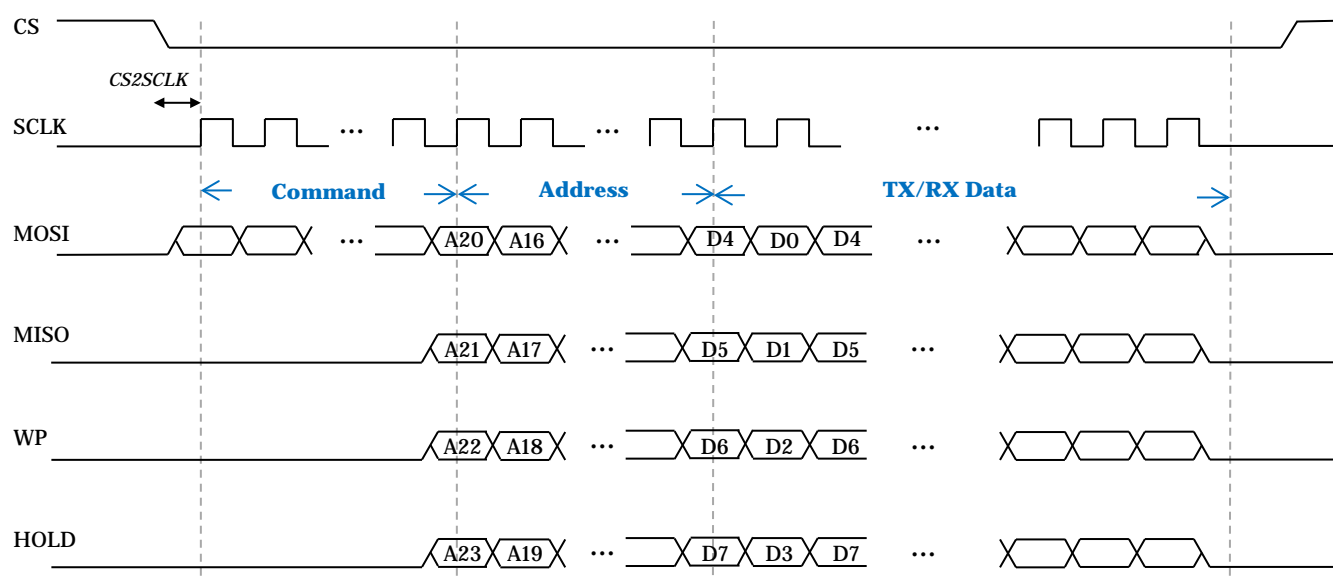

Figure 9. SPI Quad I/O Mode Transfer (3-byte address)
The quad I/O mode quadruples the SPI bandwidth by treating the master-input/slave-output (MISO), master-output/slave-input (MOSI), write protect (WP), and HOLD signals as bidirectional wires. The SPI controller provides two transfer formats at the quad I/O mode. In one format, both the address phase and data phase make use of the four wires (MISO, MOSI, WP and HOLD). In the other format, only the data phase makes use of the four wires. See AddrFmt and DualQuad bits in the SPI Transfer Format Register (section 3.2.4) for more information. Figure 9 shows an example of quad I/O transfer.